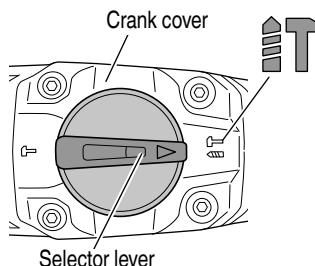

Fig. 6
- (1) Switching to "rotation + hammering"
- (b) Align ▲ of the selector lever and IT of the crank cover as illustrated in Fig. 6.